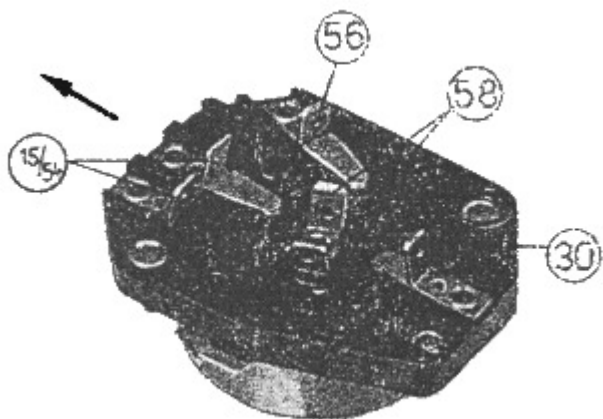

Fig. 163. Connections of the ignition-light switch
In order to be in a position to put the cables on the correct tags after a replacement of the ignition-light switch, the individual connections are once more clearly represented in Fig. 163.
The ignition-light switch shown in Fig. 163 cannot be used for older MZ types because the former switch position (5) is no longer switched electrically. On the other hand, an ignition-light switch of the older types can also be used for the ETZ.